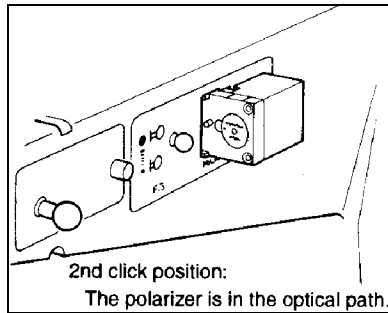

Figure 1-22
- To enable differential interference microscopy, push the polarizer slider in to the second click position to bring the polarizer into the optical path. (Figure 1-22)
- To enable simplified polarization microscopy, push the polarizer slider in to the second click position to bring the polarizer into the optical path. (See Figure 1-22 on the previous page.)